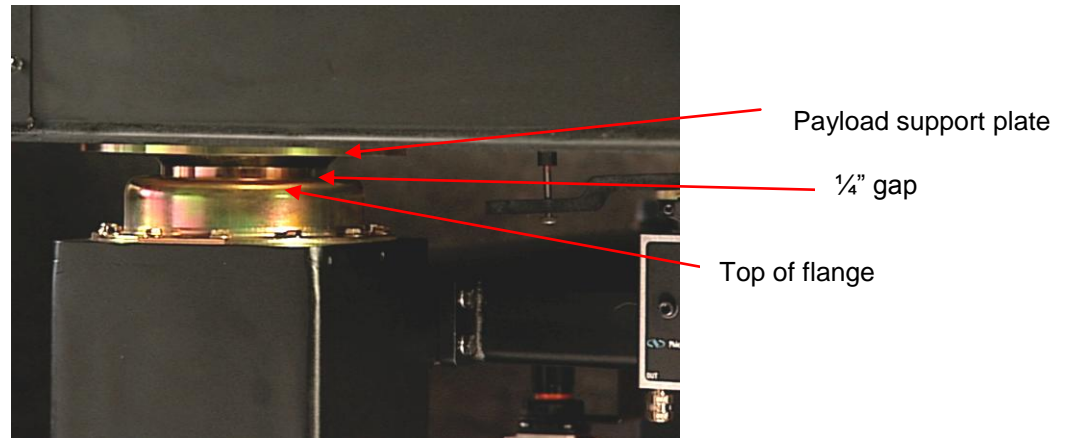

Figure 21
1. After the system floats, check the position of the payload support plate for all isolators (see figure 21). The gap between the bottom of payload support plate and the top of the flange should be about 1/4 inch nominal (6 mm).